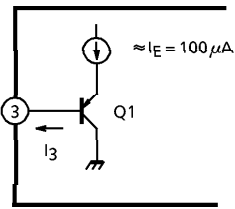

Fig.1
(1) Forward /reverse select switch
① Threshold voltage
Pin③ is coupled to the base of Q1 (PNP-Tr) as shown Fig.1.
③ I3 (In Fig.1)